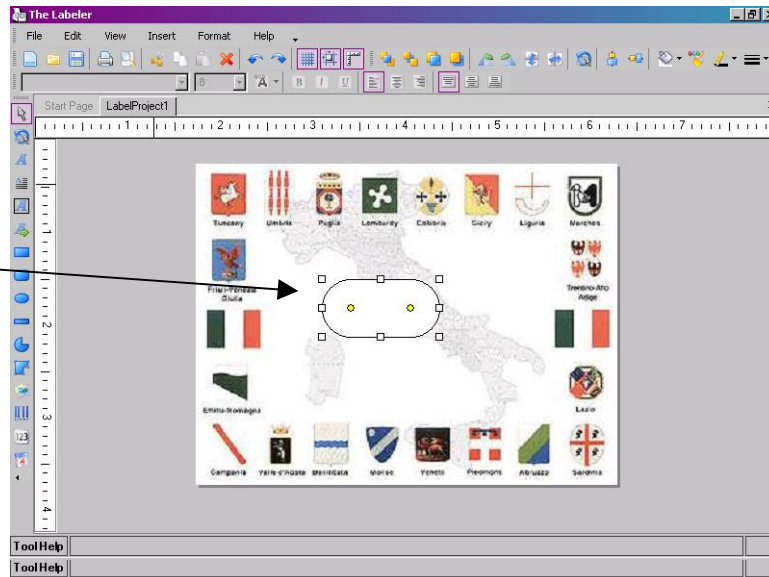

Figure 4.3.6.1: Select the object to rotate right 90
2. Select the Rotate Right 90  tool from the formatting tool bar or from the format menu (see Figure 4.3.6.2).